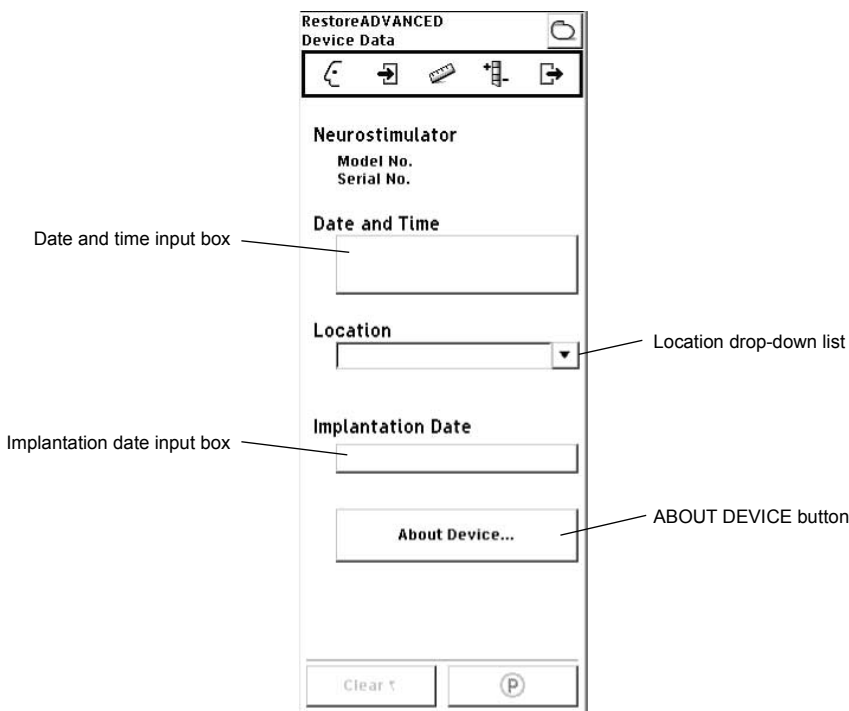

Figure 19. DEVICE DATA screen.
2. Select the date and time input field to view the current date and time stored in the neurostimulator (Figure 19). To reset the date and time use the INCREASE and DECREASE buttons or use the MATCH N'VISION button.
3. Select the neurostimulator implant location from the location drop-down list or enter another location (Figure 19).
4. Enter the date the neurostimulator was implanted in the implantation date input box (Figure 19).
5. Hold the programming head steady over the neurostimulator, then press the PROGRAMMING (P) key or select the PROGRAM (P) button on the programmer screen.